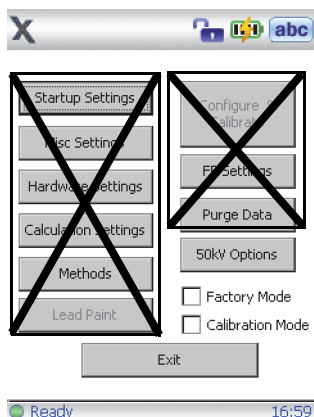

Figure E-13 The 50 kV Options button
You must **ONLY** select the **50 kV Options** button. Making other selections can effect the analyzer and force you to return the analyzer to the factory for recalibration or reconfiguration (see Figure E-13 on page 160).
3. Tap **50 kV Options** (see Figure E-13 on page 160).